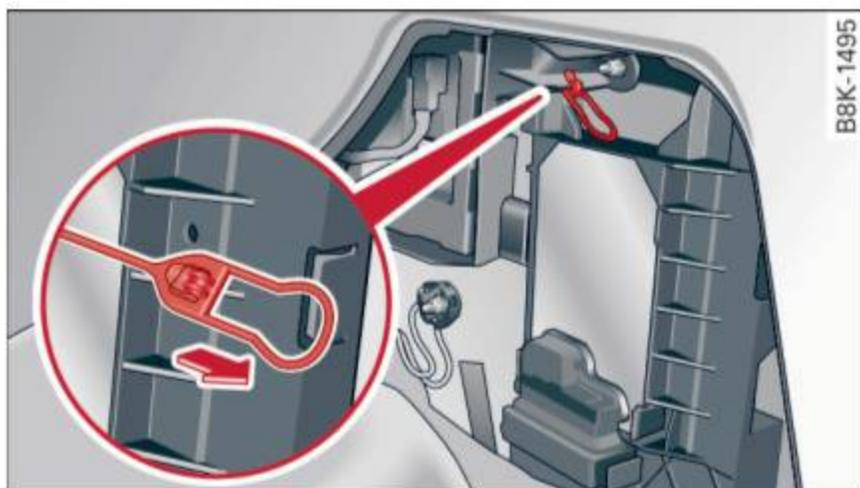

Fig. 158 Luggage compartment: Emergency opening of fuel filler flap
- ▶ Loosen the strap from its bracket and pull on it ⇒ *fig. 158*. You can now open the fuel filler flap as usual ⇒ *page 188*.